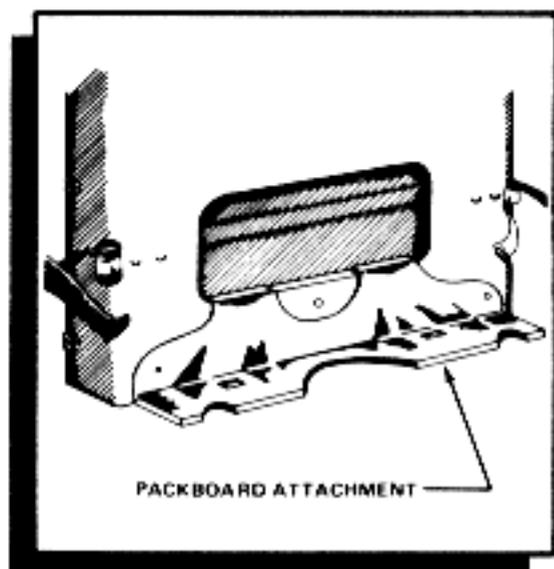

Figure 4-41. Packboard attachment.
**Using Packboard Attachment.** Use the packboard attachment (figure 4-41) to support heavy rigid loads at the bottom. To attach the packboard attachment to the packboard, place the flanges of the attachment over the lower edge of one of the